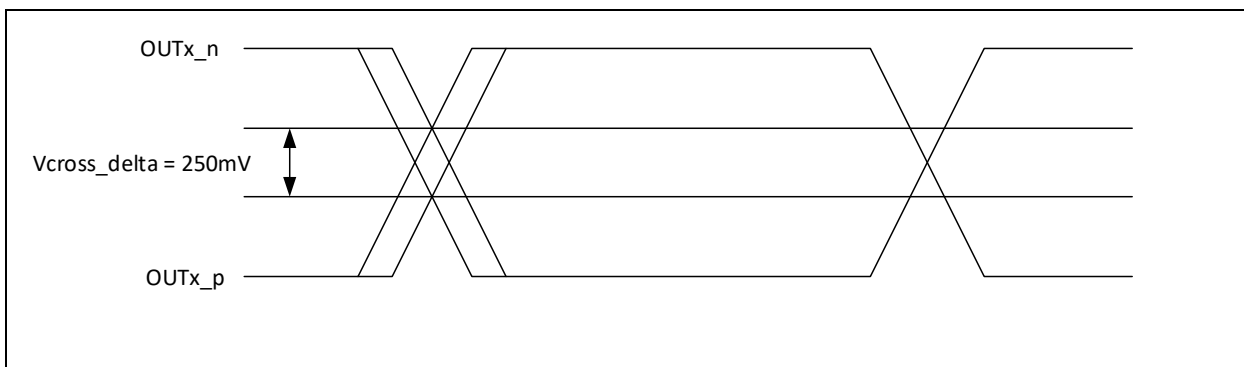
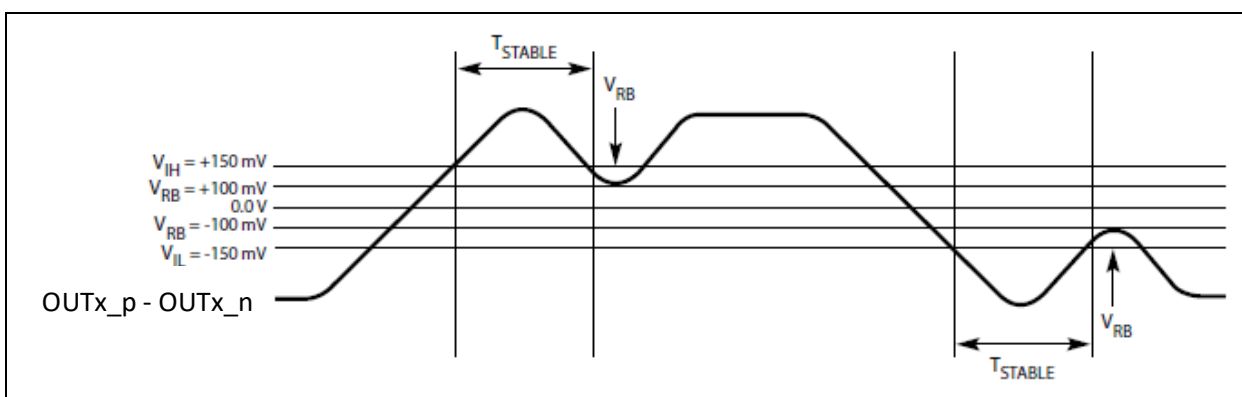

Figure 15. Single-Ended Measurement Points for Delta Cross Point
Figure 18. Differential Measurement Points for Ringback
(9) Defined as the total variation of all crossing voltages of Rising CK and Falling CK# This is the maximum allowed variance in V_{CROSS} for any particular system. See Figure 15.
(10) The PPM requirement from PCIe Express Base Specification, Revision 4.0 is related to clock generation devices. This requirement is not applicable to buffers because buffer's output frequency accuracy is identical to the frequency accuracy of the source driving the buffer.
(11) T_{STABLE} is the time the differential clock must maintain a minimum ±150 mV differential voltage after 20 rising/falling edges before it is allowed to droop back into the V_{RB} ±100 mV differential range. See Figure 18.
(9) Defined as the total variation of all crossing voltages of Rising CK and Falling CK# This is the maximum allowed variance in VCROSS for any particular system. See Figure 15.
(11) TSTABLE is the time the differential clock must maintain a minimum ±150 mV differential voltage after 20 rising/falling edges before it is allowed to droop back into the VRB ±100 mV differential range. See Figure 18.